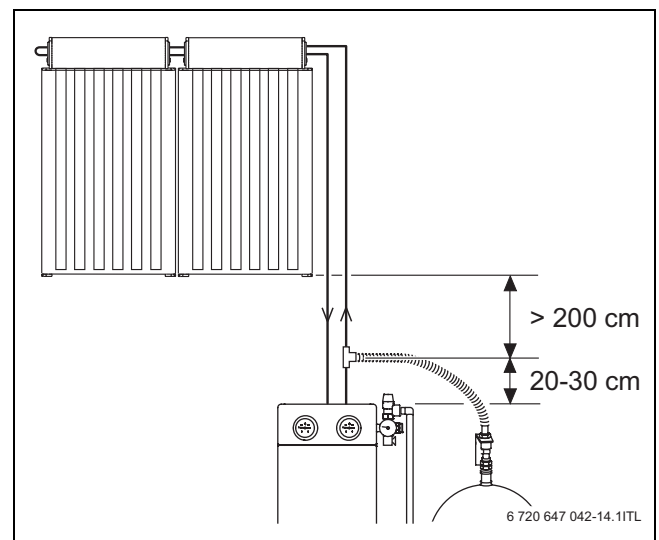

Fig. 3 Minimum clearances
- Install the expansion vessel (EV) with a tee 20-30 cm above the solar pump station in the return (→ Fig. 3).
- The distance between the solar pump station (expansion vessel connection) and the bottom edge of the collector array must be at least 2 m (→ Fig. 3).